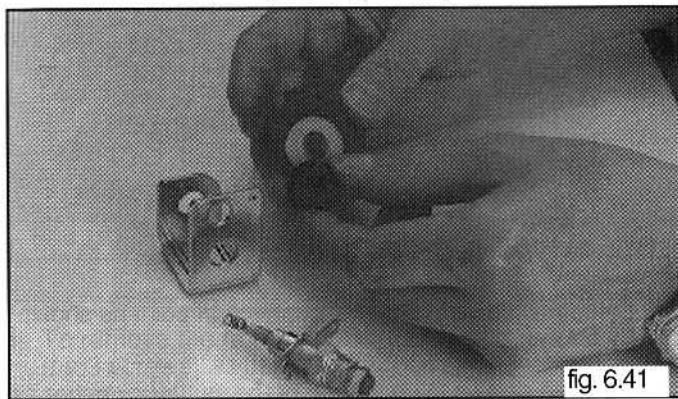

fig. 6.41
- 5 Remove the cartridge, but be very careful not to loose the internal components (see fig. 6.41);